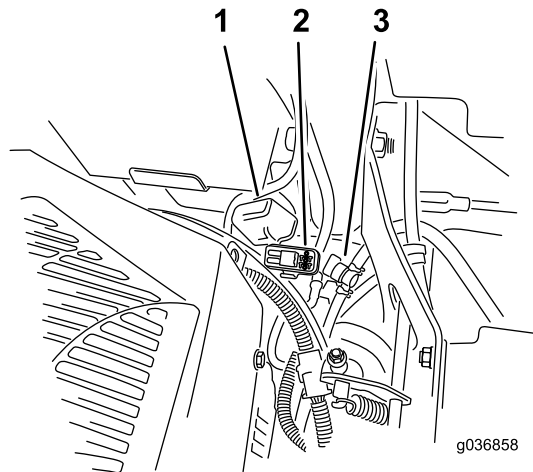

Figure 55
Note: For MyRide machines, ensure that the ground cable does not rub against the trailing arm or lower shock mount (Figure 55).
The fuses are located on the right console next to the seat (Figure 55).
2. Install a new fuse (Figure 55).